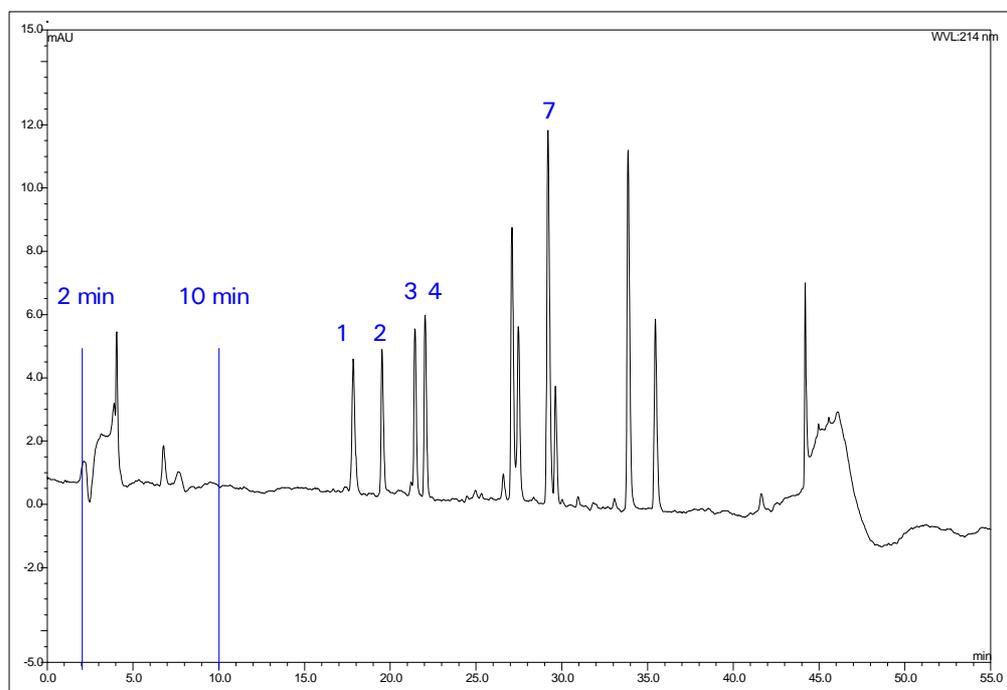

FIGURE 3-9. Standard System Test (Nano LC) – Chromatogram
(1) Use a CRP value of 625
- f) Start a blank run (without injection) and then inject $1 \mu\text{L}$ of the diluted test sample. To measure the reproducibility, run at least 8 injections. The chromatograms should be similar to FIGURE 3-9.